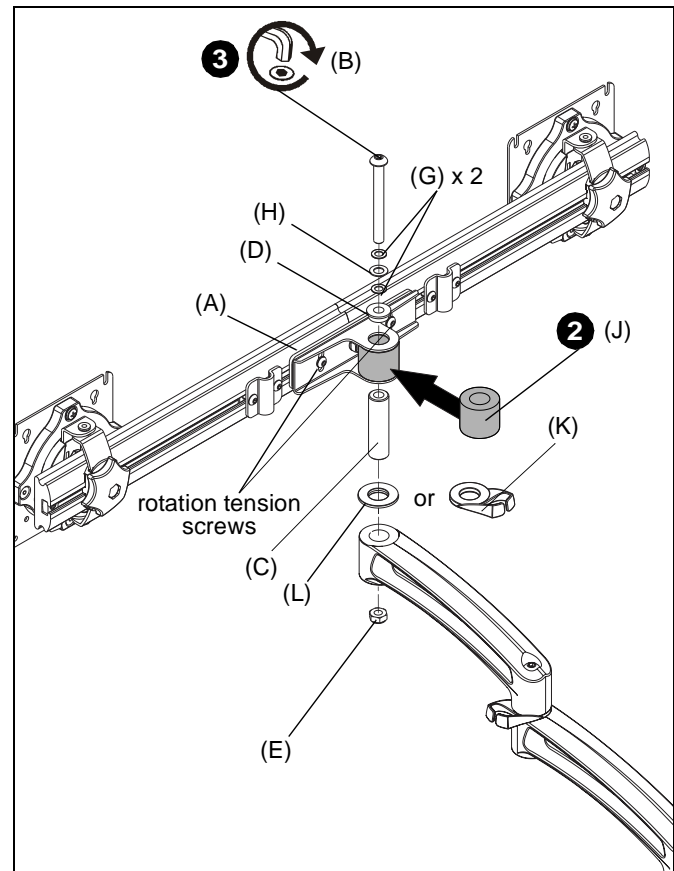

Figure 2
2. Slide rotational spacer (J) into opening on array attachment bracket. (See Figure 2)
3. Use 5/16-18 x 3 1/8" button head cap screw (B), two thin steel washers (G), plastic spacer (H), pocket washer (D), pivot pin (C), pivot point spacer (L) and 5/16-18 lock nut (E) to secure array (A) to mounting arm. (See Figure 2)
NOTE: 1/8" hex key (R) provided to adjust tension of array bar rotation screws if desired. (See Figure 2)
NOTE: Cable clip (K) can be used in place of pivot point spacer (L) if additional cable management is desired. (See Figure 2)